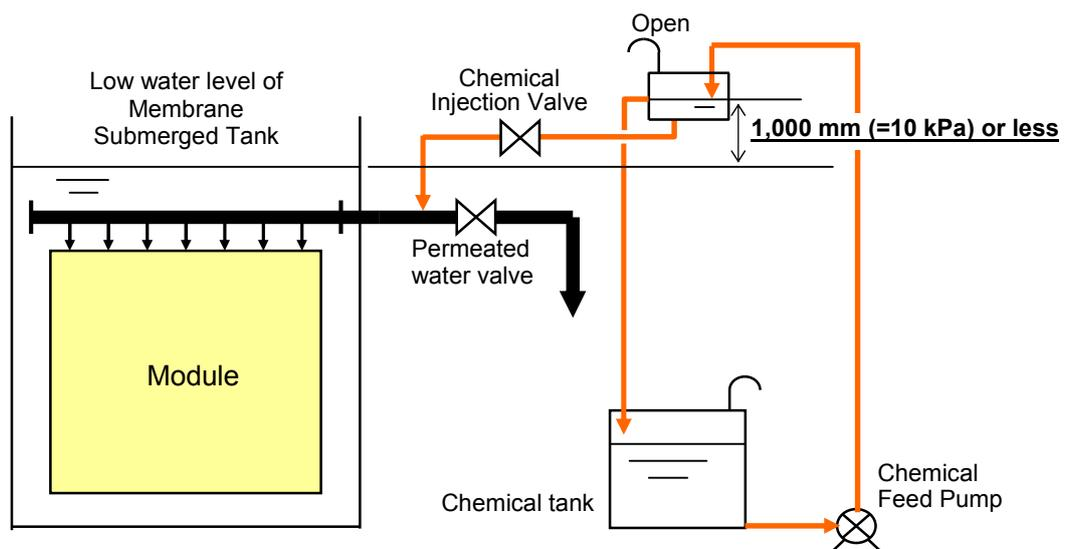

Fig.VIII-2 Chemical Cleaning with Chemical Tank Located at Bottom
- a. Chemical cleaning with the chemical tank located at the bottom (Fig.VIII-2)